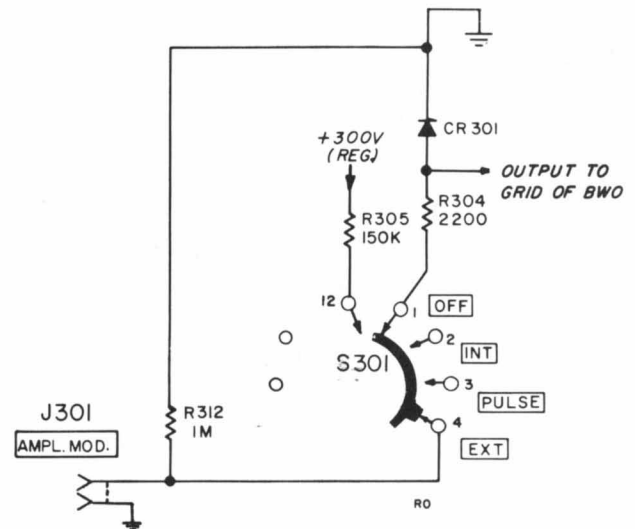

Figure 3-6. Amplitude Modulation EXT. Position
D. EXTERNAL AM OPERATION. With the AMPL. MOD. SELECTOR in the EXT. position the 300-volt source is removed (see figure 3-6), eliminating bias current to diode CR301. The grid of the bwo tube is returned through a 1-megohm resistor R312 to ground (figure 3-6) which permits application of positive input pulses provided they are either capacitively coupled or superimposed on an externally supplied -20 volt bias. The coupling capacitor must be sufficiently large and the duty cycle such, so as to maintain a charge (grid bias) between modulation pulses.